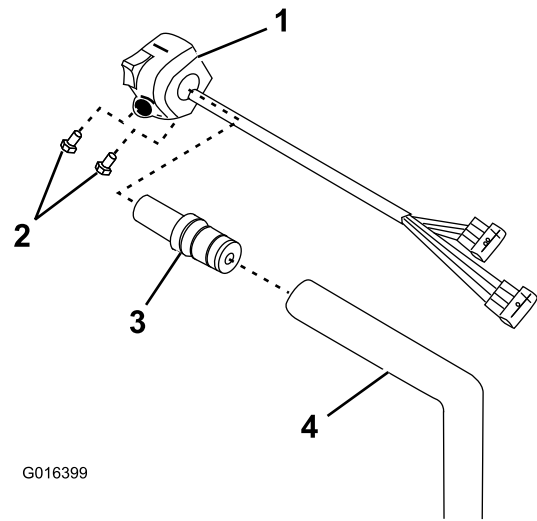

Figure 13
2. Fit the combination switch assembly to the adapter, and tighten the combination switch assembly in place using the 2 bolts provided in the kit (Figure 13).